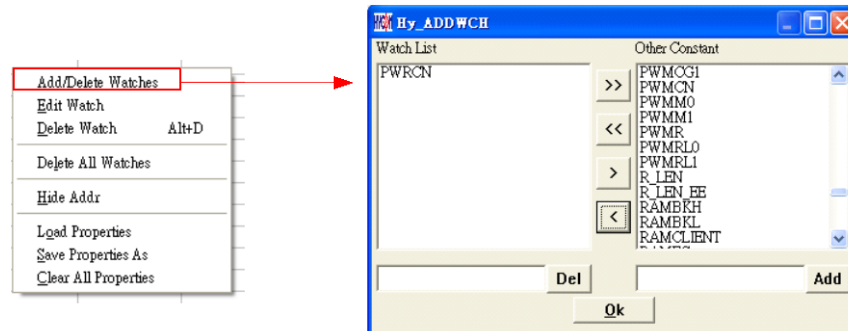

Figure 35
- Monitor EQU defined Register or RAM, click right key of the mouse and select the register or RAM to be monitored, as shown in Figure 35.